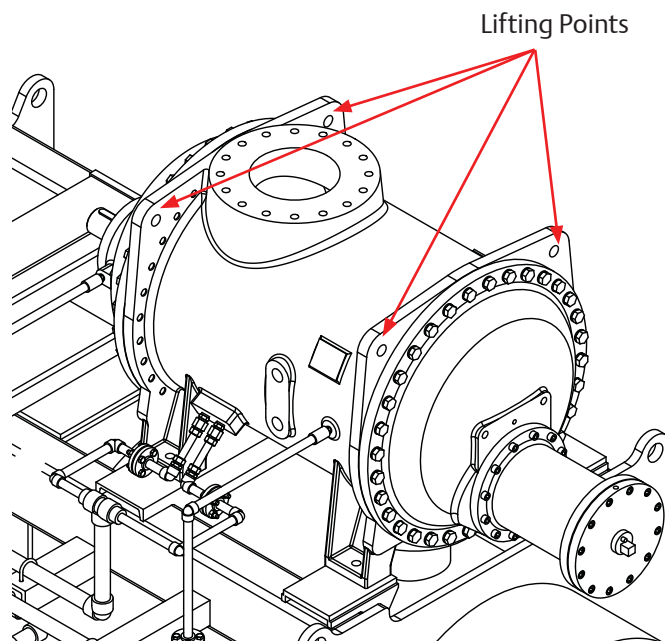

Figure 5-11. VRSG Compressor (Model 3700 Shown)
13. Install appropriate lifting shackles on compressor. Use all four lifting points locating on compressor frame, see Figure 5-11.